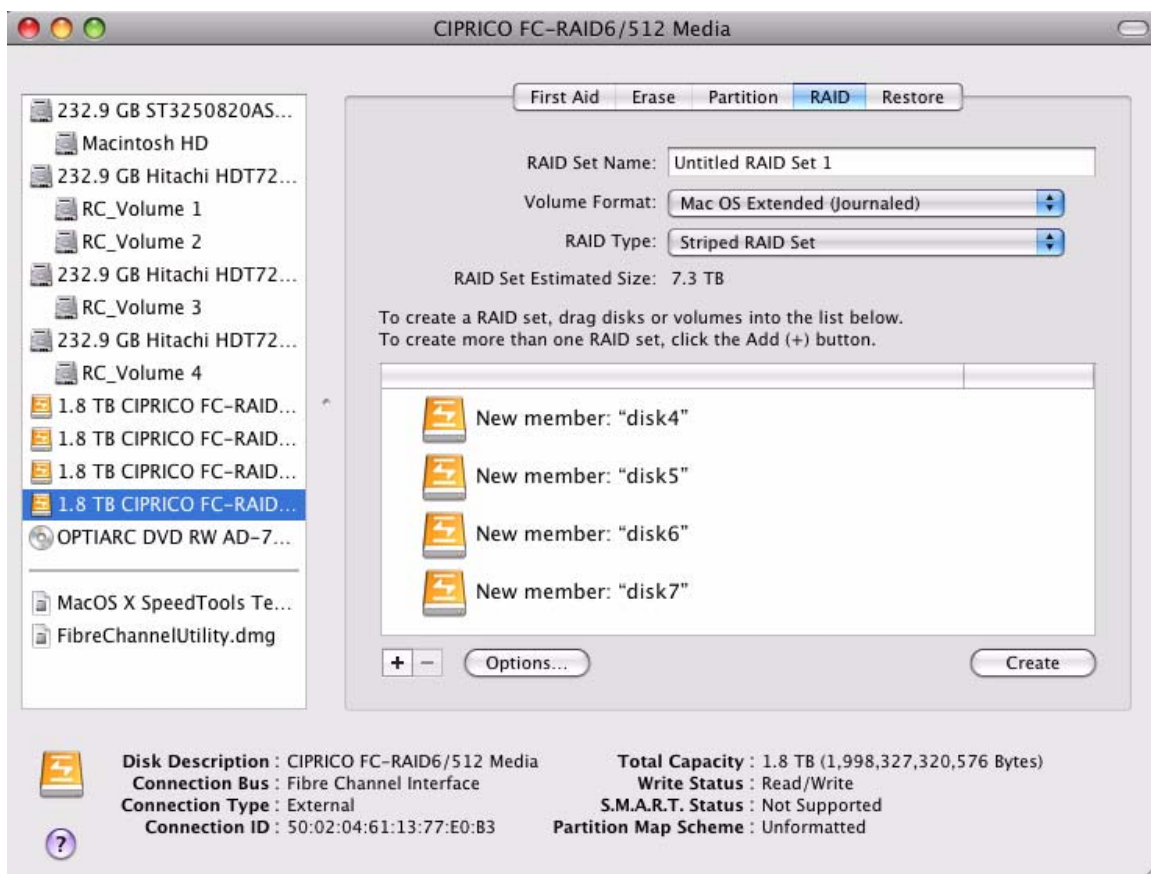

FIGURE 6-12. The Apple Disk Utility Screen, With Four RAID Icons in the Middle Section.
6. Drag the two or more CIPRICO FC-RAID icons to the middle section of the screen. See Figure 6-12.